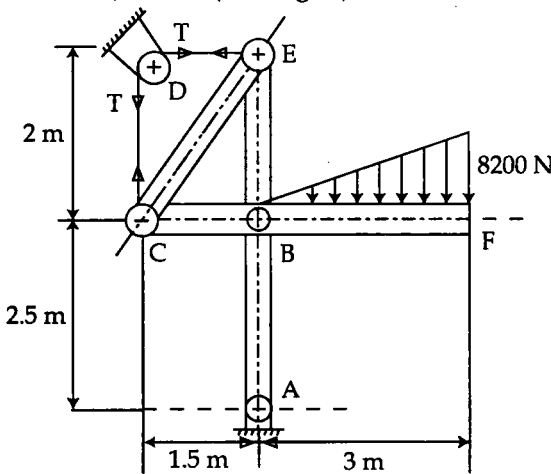

Fig. 1
1. The aluminium tube C E is pinned at C and E. The cable is attached to pins at C and E and passes over a smooth pulley at D. Determine (a) the cross-sectional area of the tube if permissible stress in tube is  $255 \text{ N/mm}^2$  (compression) and (b) the diameter of pin at C if permissible shearing stress is  $700 \text{ N/mm}^2$ , (see Fig. 1) 14